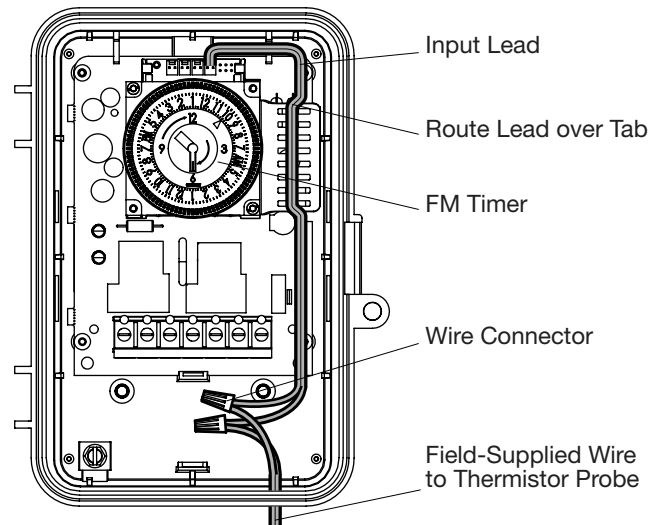

FIG. 8 Route Input Lead
3. Route the input lead above the tab and around the FM timer as shown in FIG. 8.
4. Cut the input lead length to ensure the connection is inside the enclosure, as shown in FIG. 8.